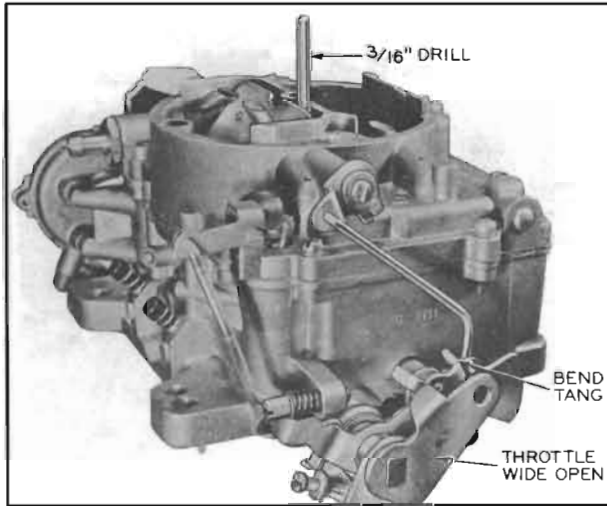

Figure 3-57—Unloader Adjustment
22. *Adjust Unloader.* Hold throttle wide open and check clearance between upper edge of choke valve and inner wall of air horn using a $\frac{3}{16}$ " drill. Bend unloader tang on throttle shaft lever as required to obtain this clearance using pliers. See figure 3-57.